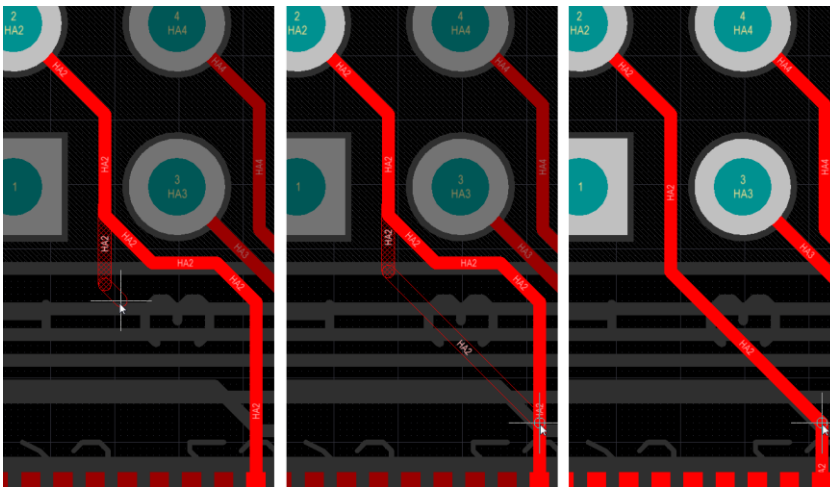

Figure 2. (a) Click on the existing routing, (b) then re-route to define a new path for connection HA2, (c) when you finish the old loop is removed
5. To edit an existing route, select **Route » Interactive Routing**. The connection that you will modify is HA2 (Figure 2).
- b) Route down and diagonally across to meet HA2, above where it connects to U1 pad 191, as shown in Figure 2. When you meet the old route the redundant segments are removed.